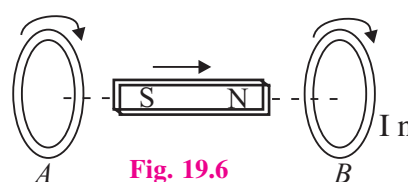

Fig. 19.6
- The bar magnet in Fig.19.6 moves to the right. What is the sense of the induced current in the stationary loop A? In loop B?